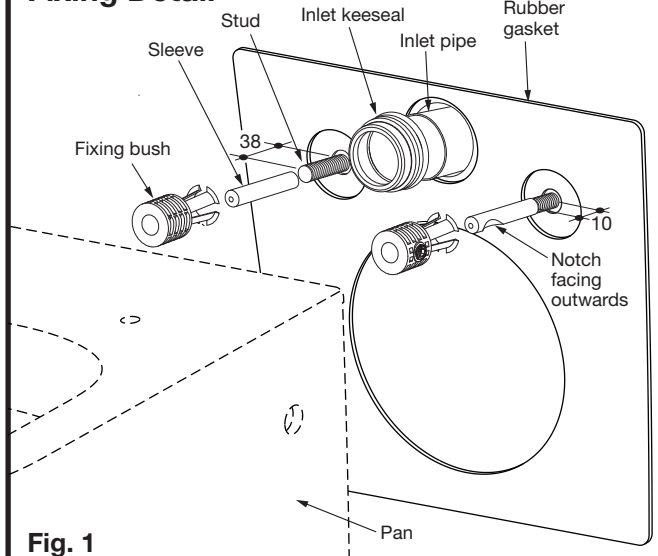

Fig. 1
- 3- Set the length of the fixing studs 38mm from the finished wall surface, as detailed in **Fig. 1**.
- 8- Fix the mounting sleeves onto fixing studs so that 10mm of thread is exposed in front of the gasket, as detailed in **Fig. 1**.